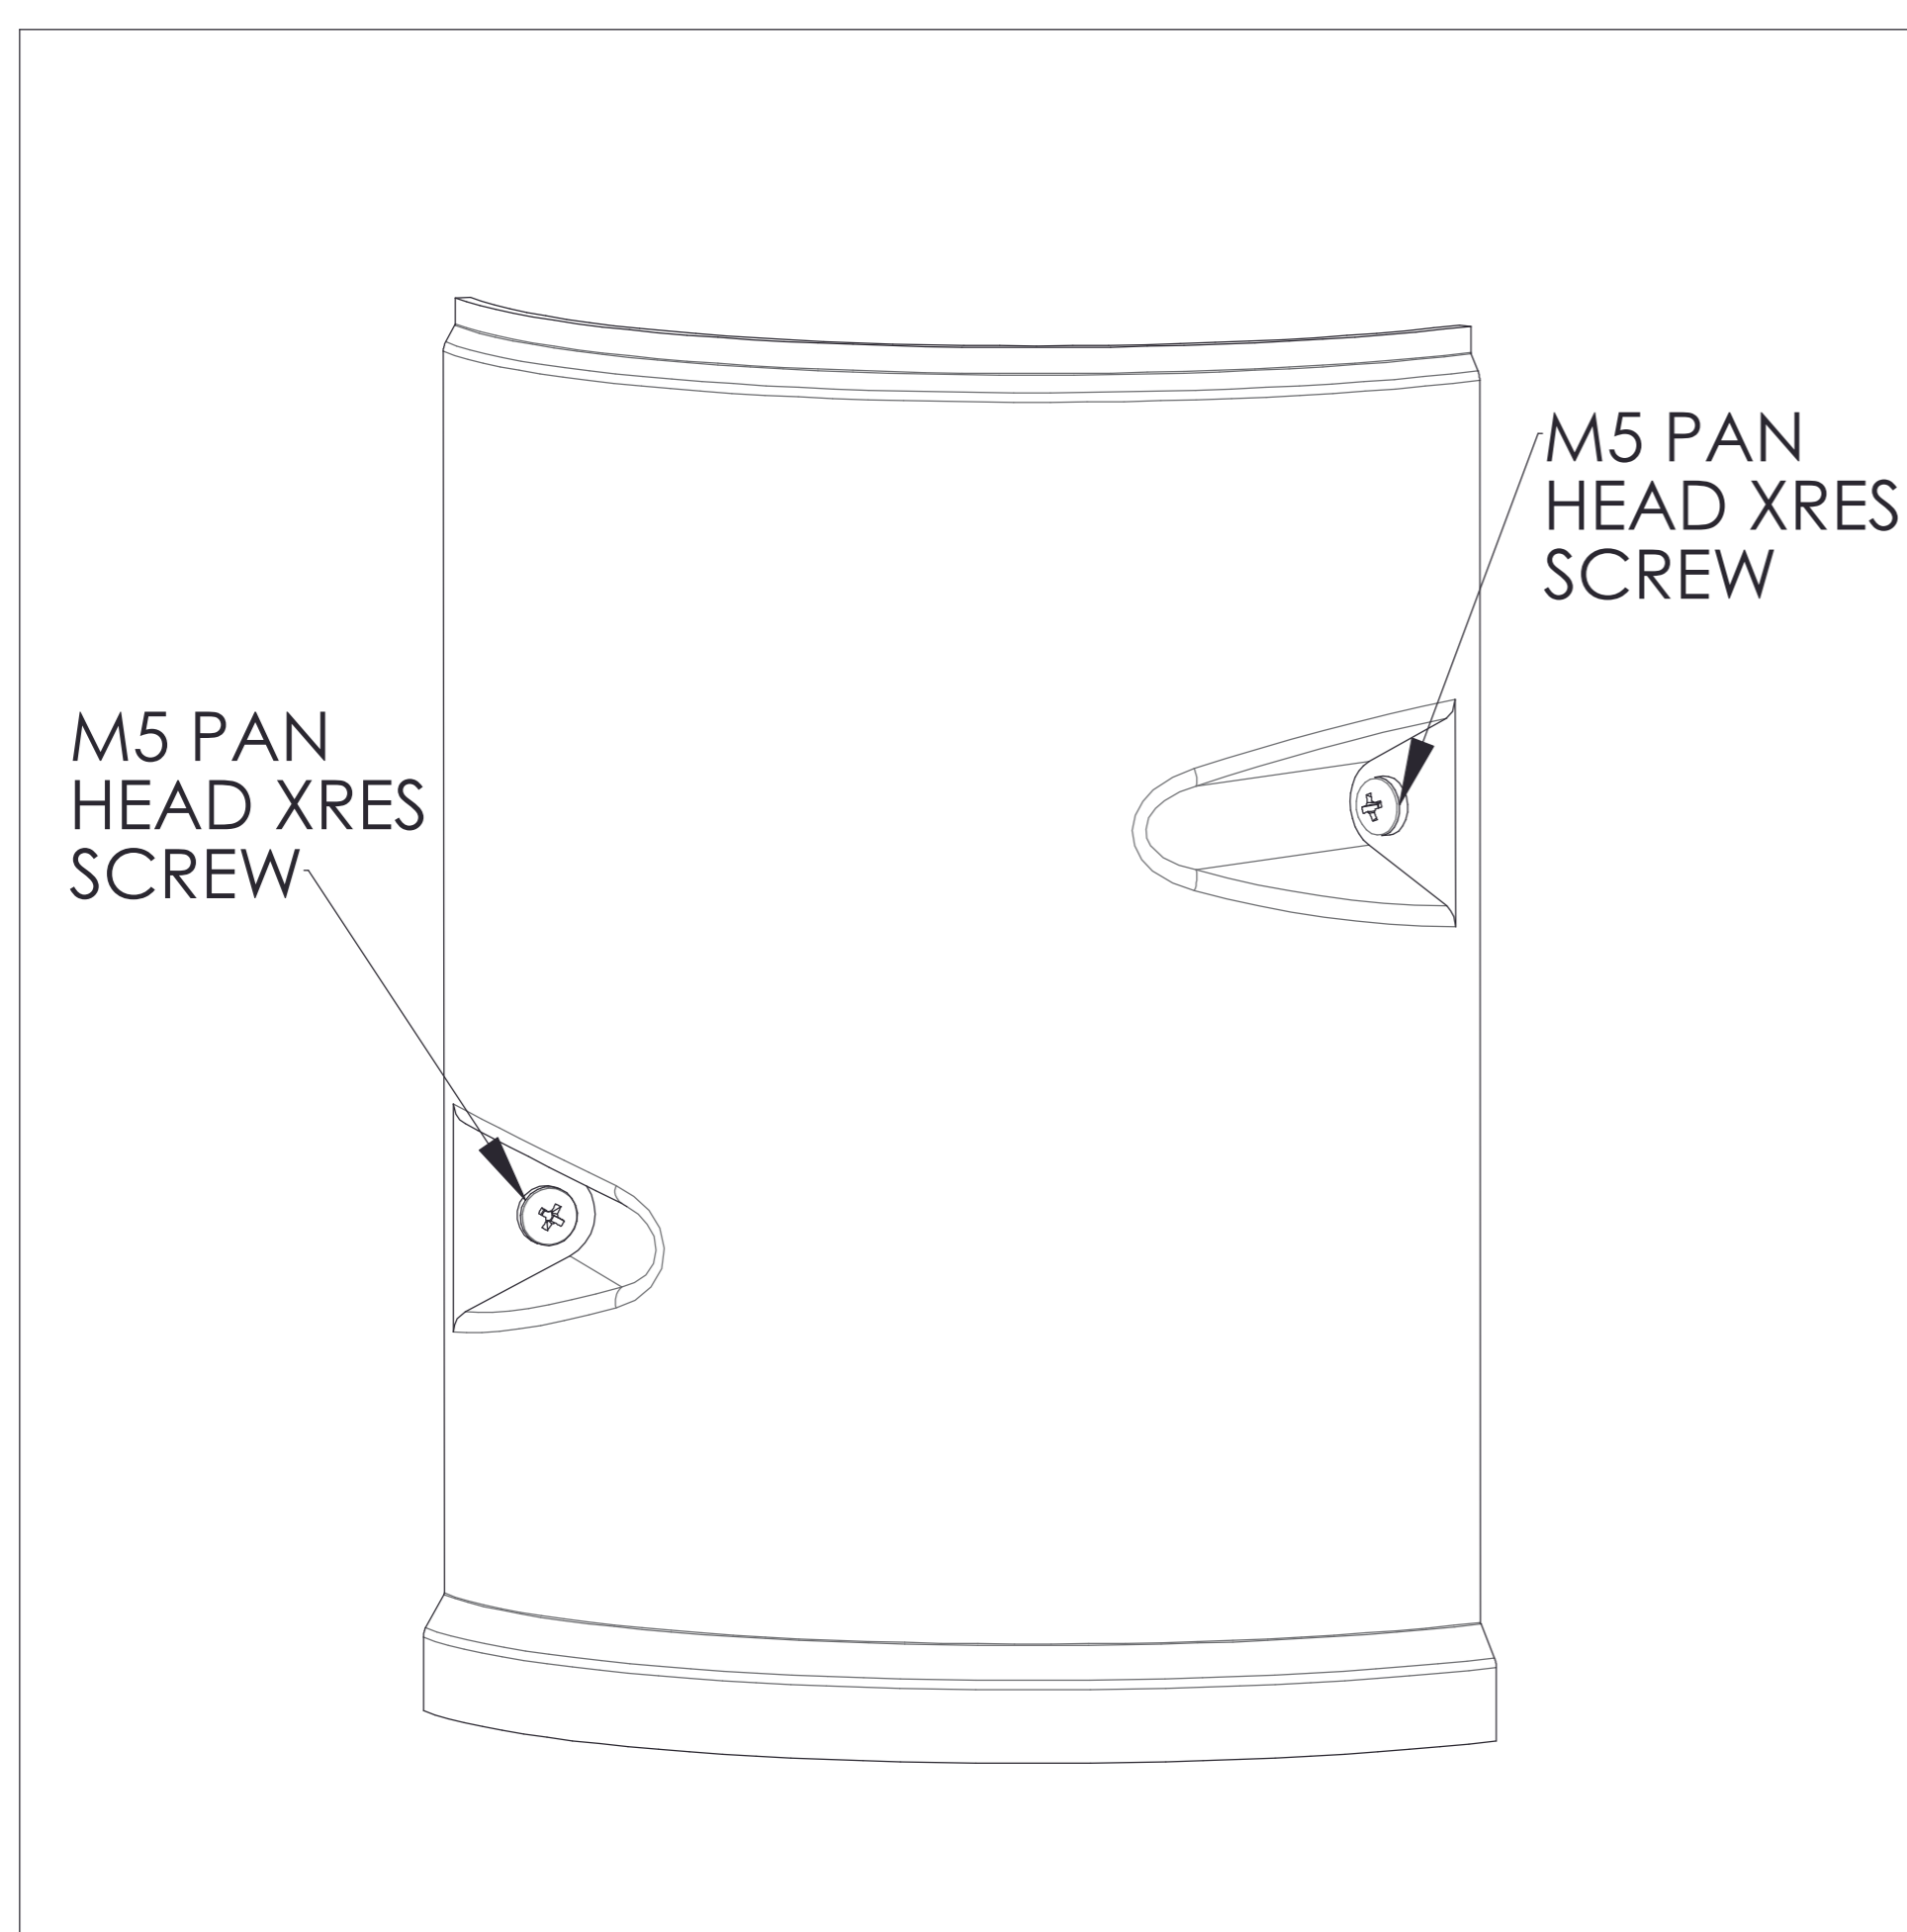
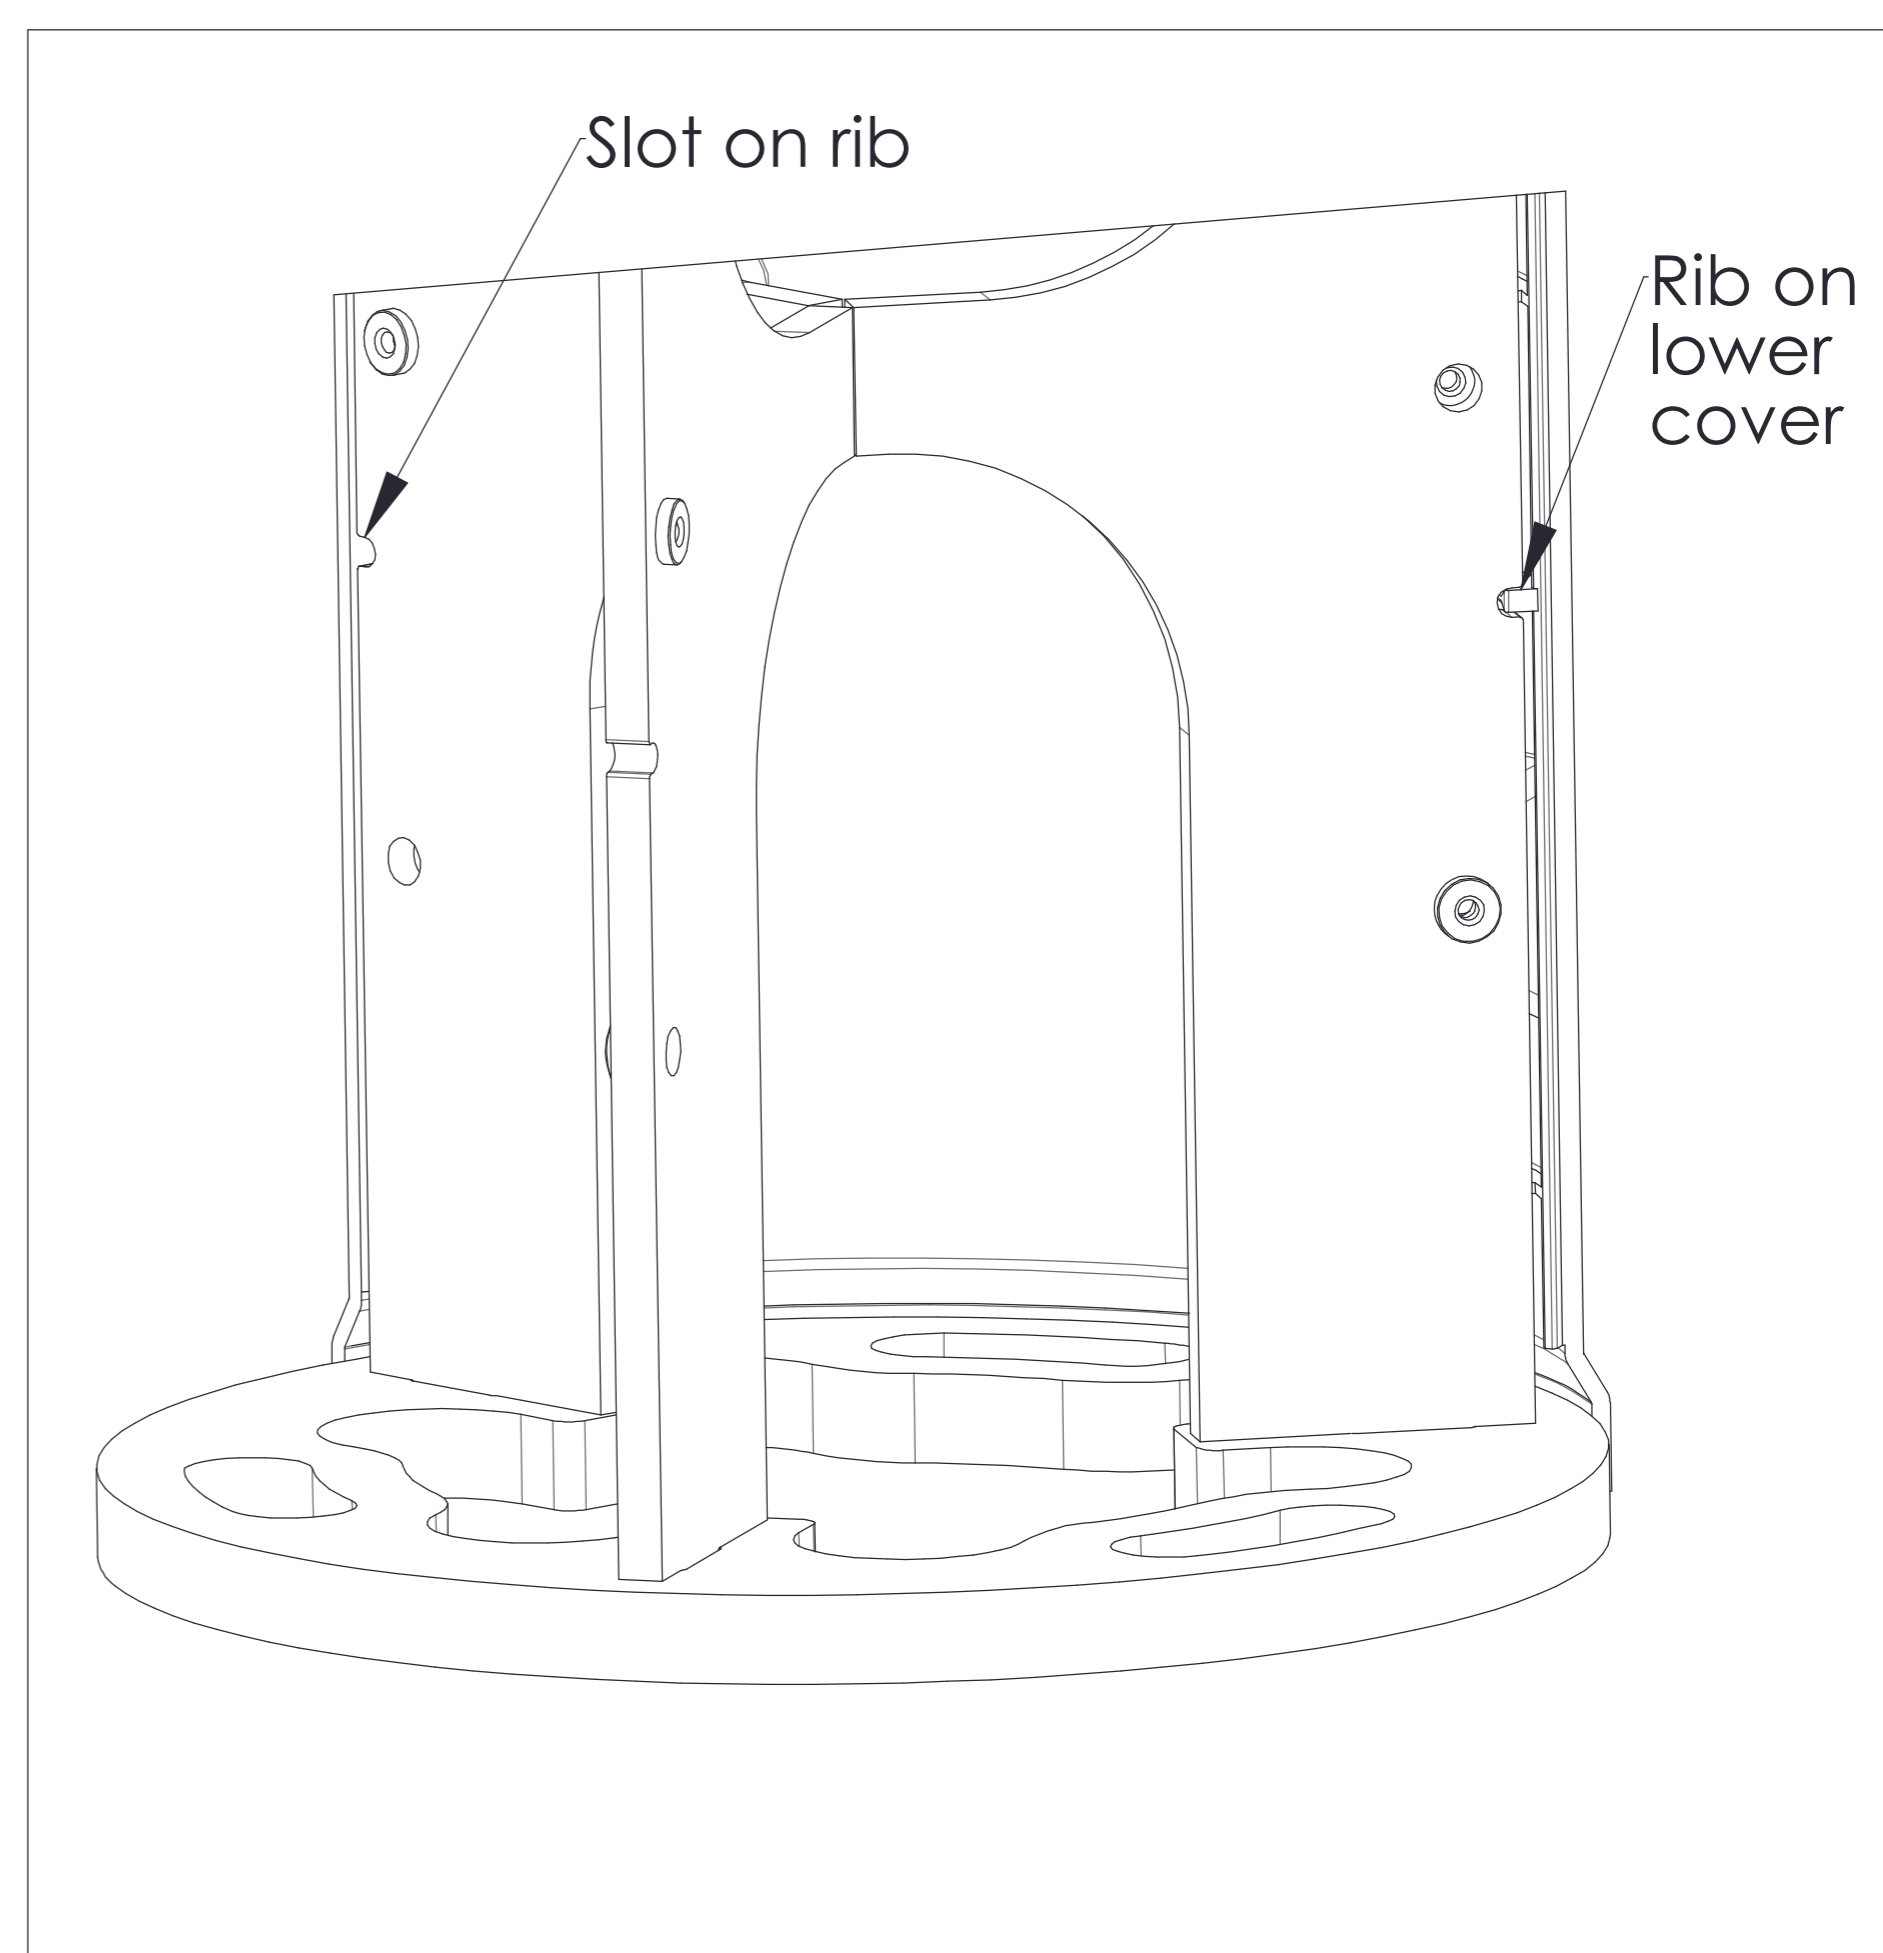

Figure 6. Cover with attached screws
Figure 7. Location of rib on lower cover.
**When installing the lower covers, make sure the screws attach to the cover (Figure 6), then fit the rib, see Figure 7, to the slot, and then tighten screws.**